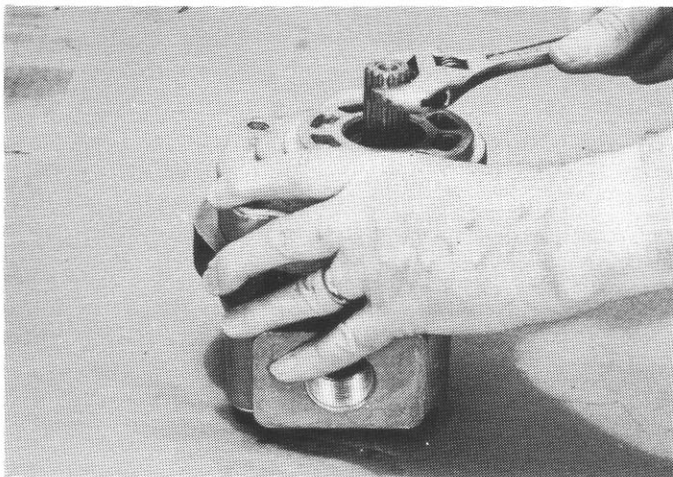

Fig. 24
28. Using twelve inch wrench, check to see if shaft will turn. It will be tight but should turn free with a 15 lbs maximum of force on wrench. (Fig. 24)